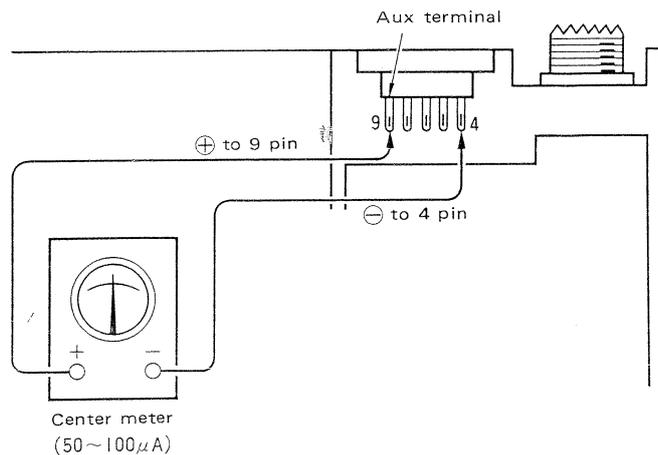

Fig. 11 Center Meter Zero
1. Connect a frequency counter to the power meter cable by winding as Fig. 11. Adjust TC 20, 25, 29 for the following counter reading at each channel.